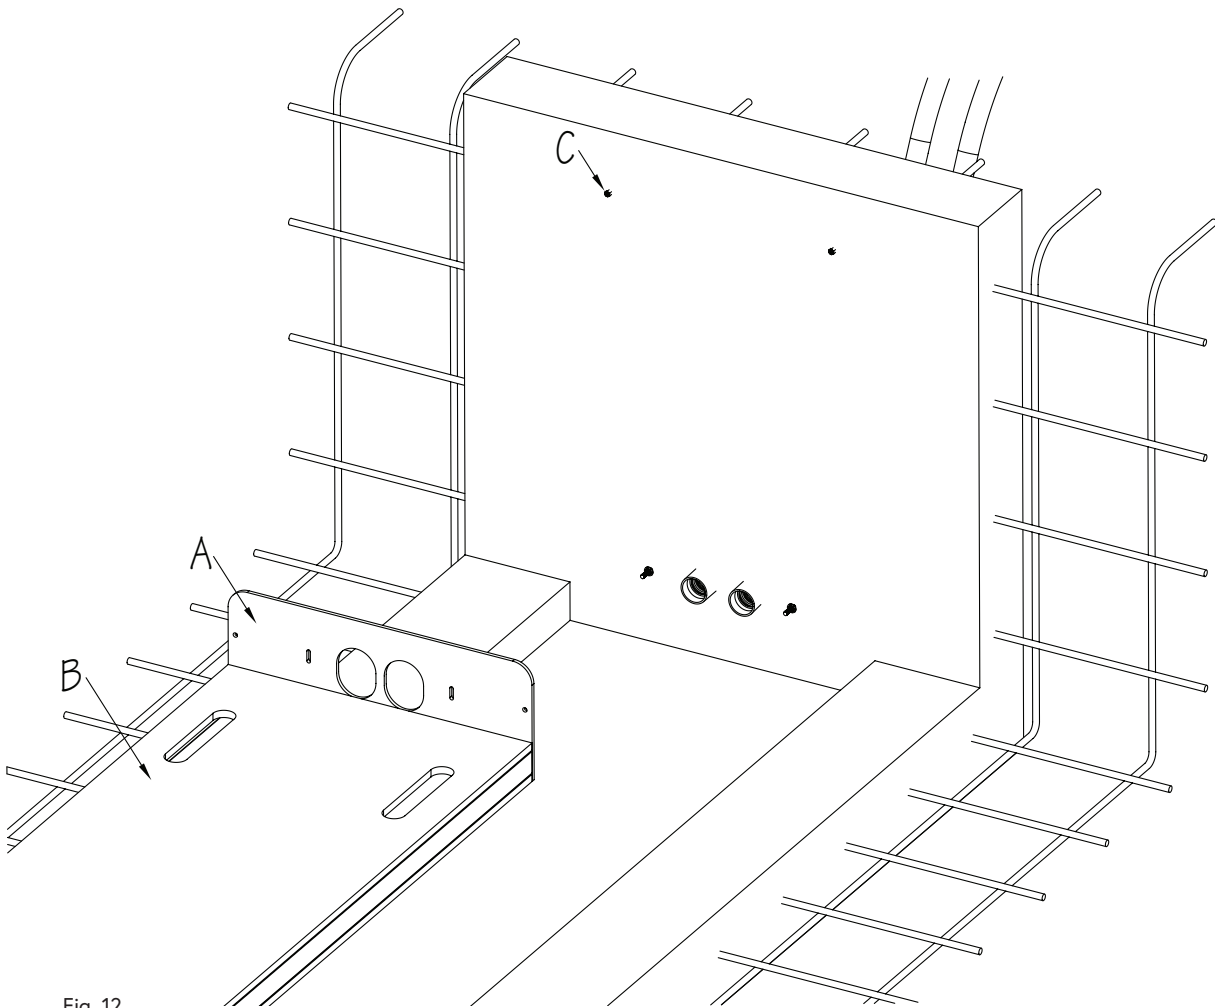

Fig. 12
Once the gunite is shot up to the back of the template and around the mold, remove the template (A) and mold (B) prior to the finish coat application. The Sacrificial Bolts (C) can be removed once the finish coat cures (Fig. 12).